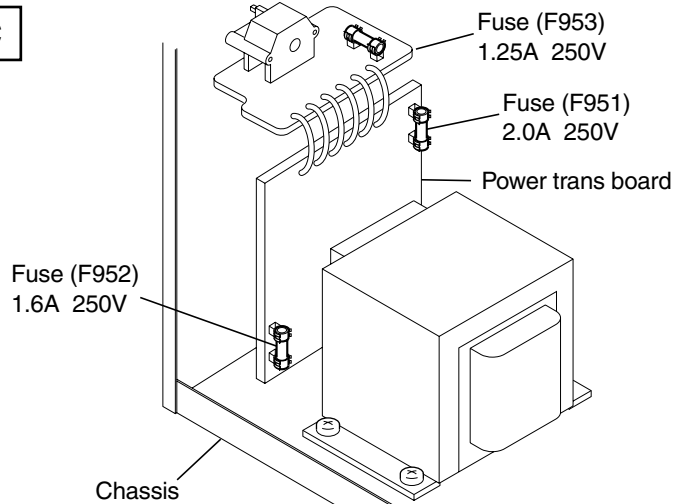

Fig.1
**Replacement of the fuses and the power IC****■ Replacing the fuses (See Fig.1)**